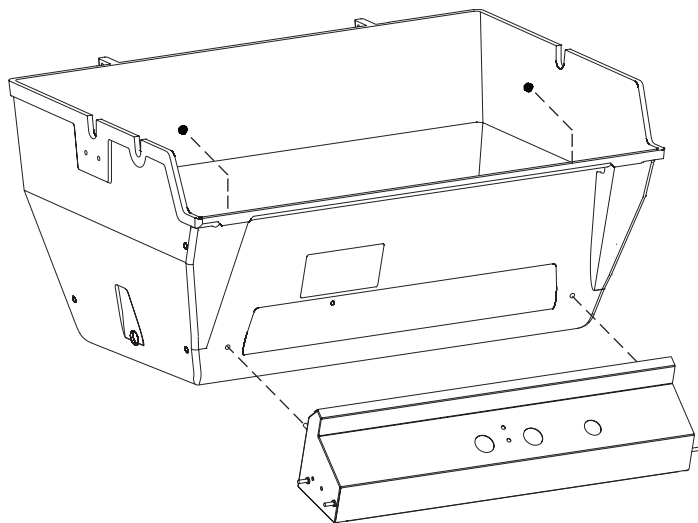

Figure 8
Attach control panel assembly to grill bottom with two (2) 10-24 keps nuts. See Figure 8.